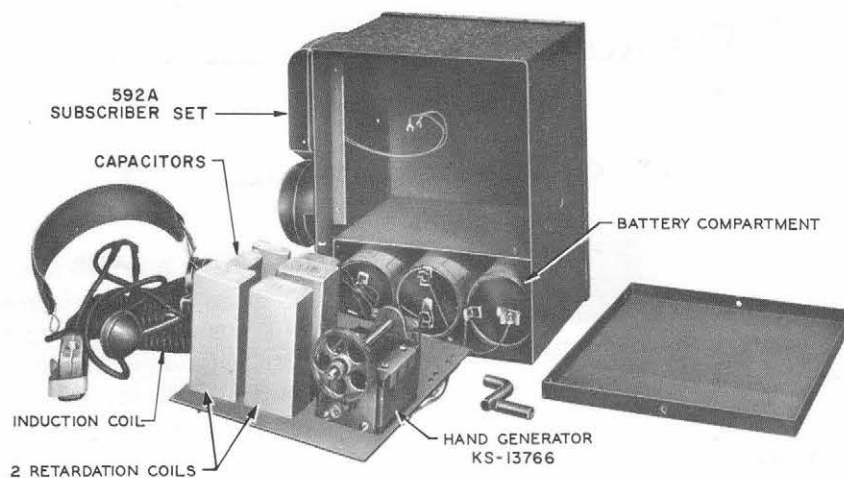

Fig. 2 - F-50682 Telephone Set, Open View
2.02 Space is provided for three KS-6542-type batteries which are required for operation but are not furnished with this set (see Figs. 2 and 3). A 592A subscriber set is mounted on the outside of the box on the left side, and the F-50721 head telephone set is connected to the set by means of a 15-foot spring cord which is furnished as part of the headset.